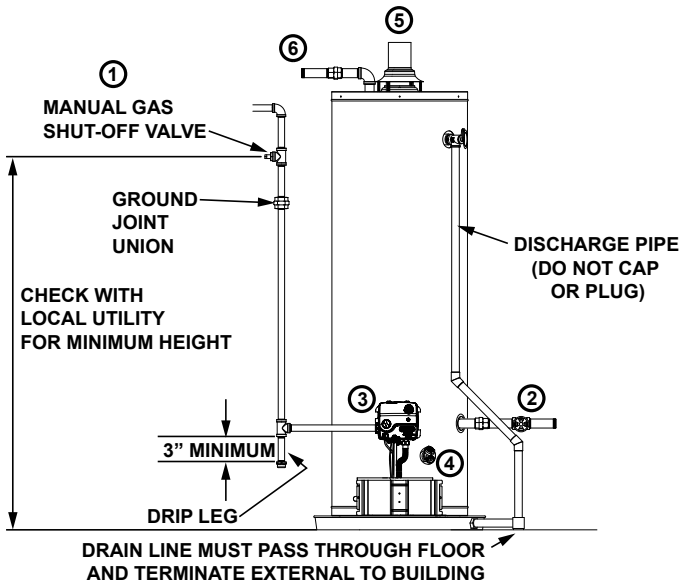

FIGURE 2.
If the main gas line shutoff valve serving all gas appliances is used, also shut "OFF" the gas at each appliance. Leave all gas appliances shut "OFF" until the water heater installation is completed. See Figures 2 and 3.
2. Open a nearby hot water faucet until the water is no longer hot. When the water has cooled, turn "OFF" the water supply to the water heater at the water shut off valve or water meter. Some installations require that the water be turned off to the entire house. See Figures 2 and 4.
4. Attach a hose to the water heater drain valve and put the other end in a floor drain or outdoors. (See Figures 2 and 5.) Open the water heater drain valve. The water passing out of the drain valve may be extremely hot. To avoid being scalded, make sure all connections are tight and that the water flow is directed away from any person.